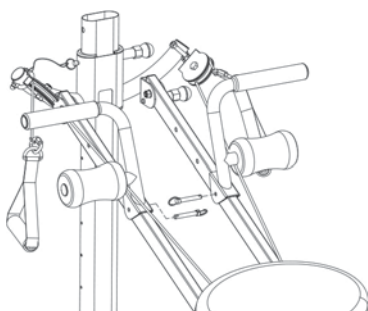

Fig. 3
3. Insert the 2 Short Hitch Pins through the holes on the Wing Attachment Brackets and the hole on the Rails, as shown in Fig. 3.